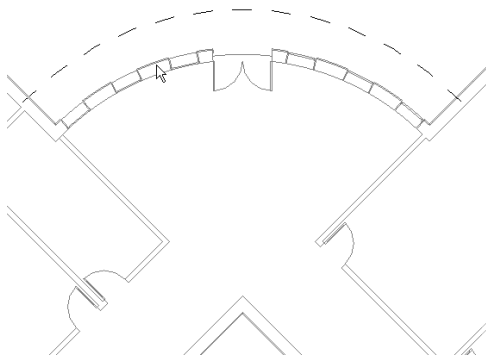

Figure 6-48 Sketching the curved roof profile
24. Move the cursor near the curved wall of the Lounge area. When the dashed line appears on the outer face of the wall, as shown in Figure 6-48, click to sketch the roof boundary curve.